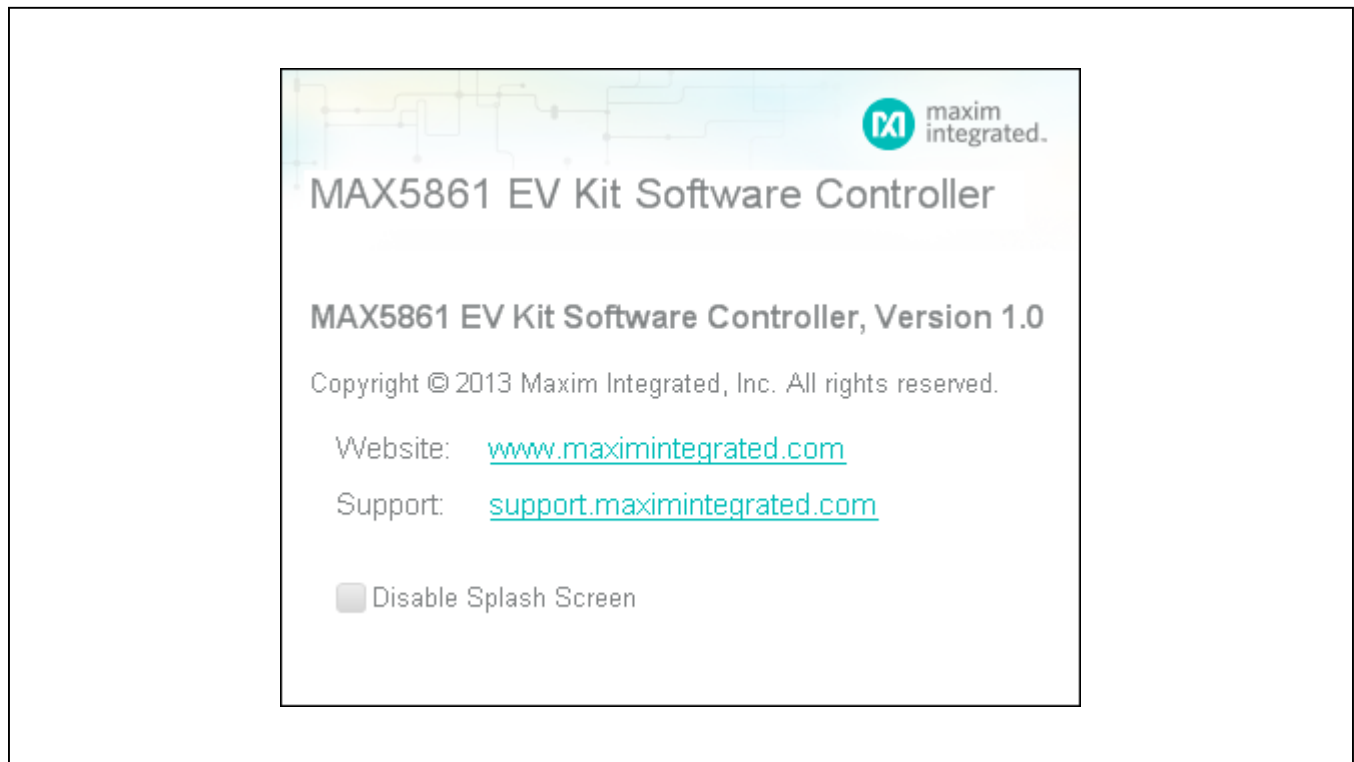
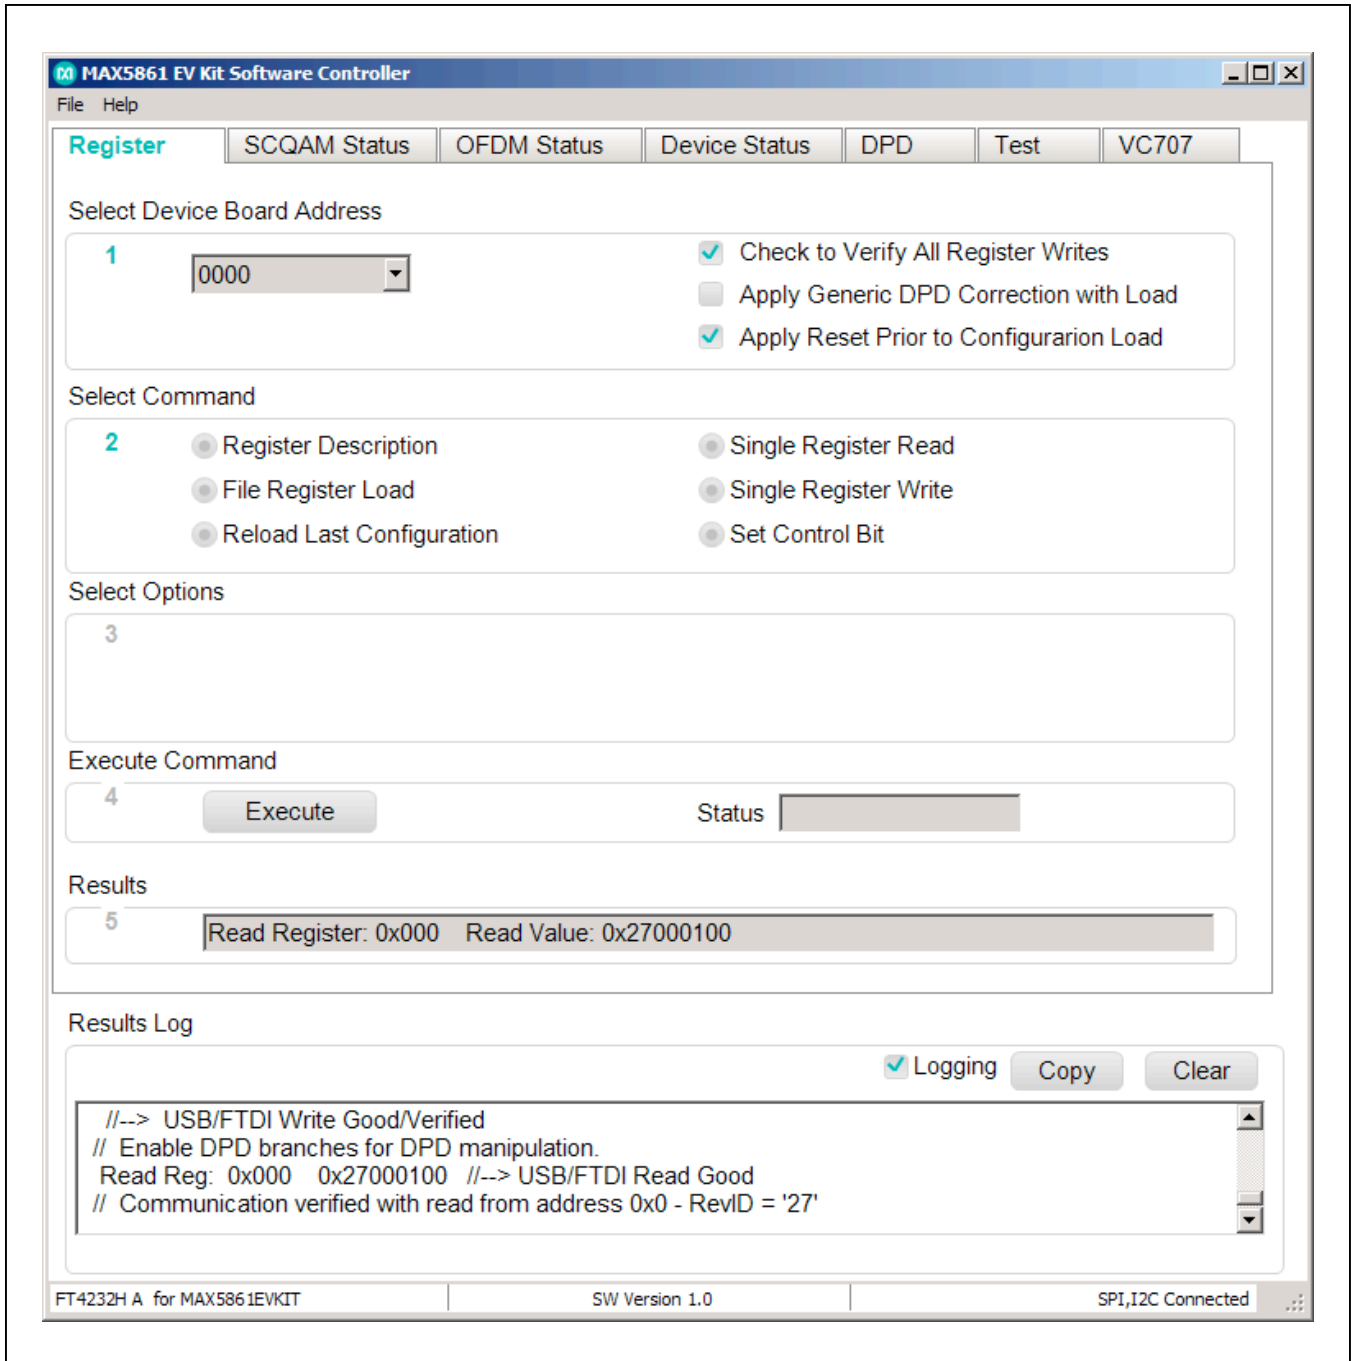

Figure 2. MAX5861 EV Kit Software Controller Splash Screen
Figure 3. MAX5861 Evaluation System Controller Software GUI Window
- 13) Start the MAX5861 EV kit software by opening the icon in the **Start | Programs** menu under **Maxim Integrated**. The EV kit software window will display a splash screen, as shown in Figure 2, while the software is loading. When the software load is complete, the software GUI will display as shown in Figure 3.
- 14) Verify proper communication with the board in the **Log Window** of the GUI. The software reads the register 0x000 at software initialization and should read a 0x27 in the ID code, as shown in Figure 3 below.